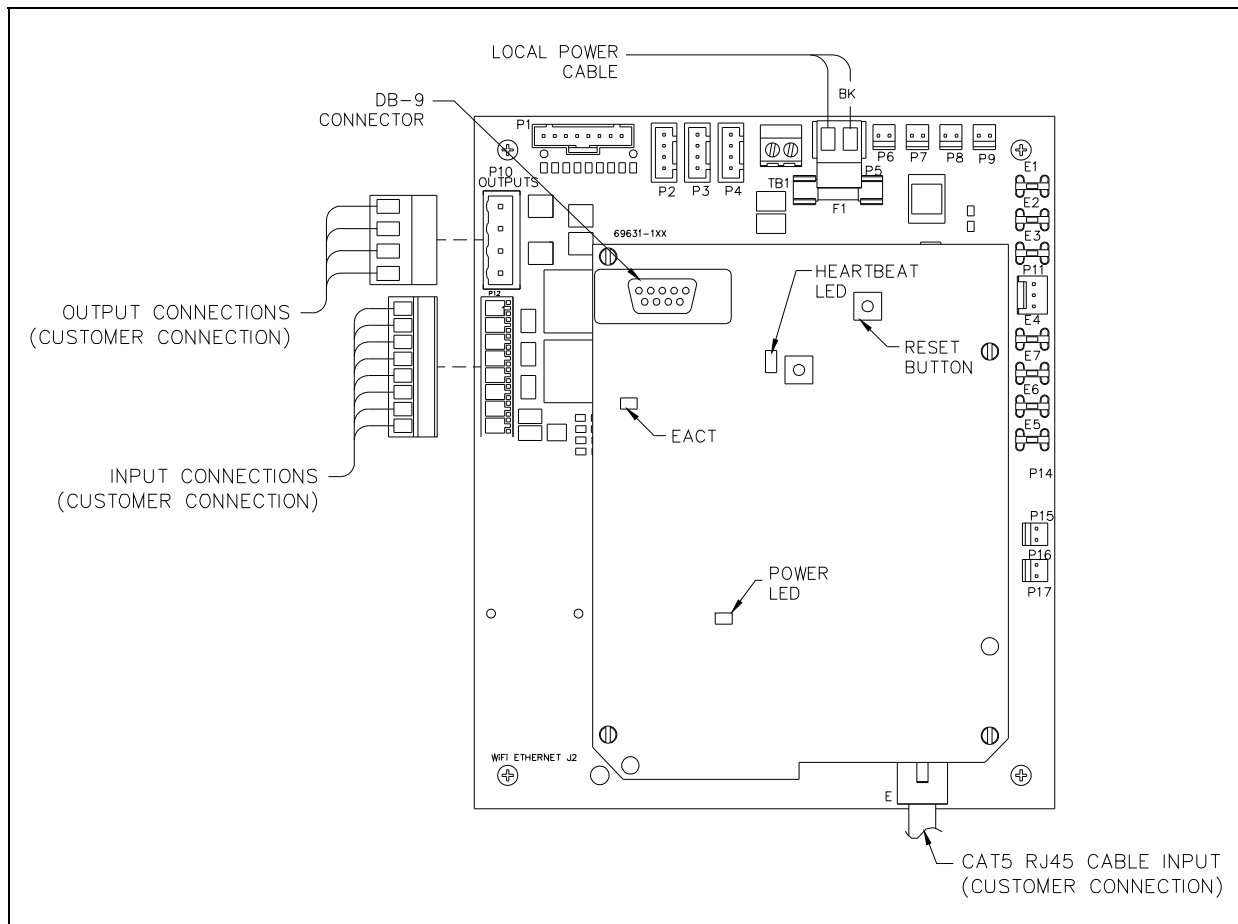

Figure 7. VoIP Telephone PCB Assembly
2. Plug the incoming Cat5 data line to the network Cat5 cable receptacle on the underside of the VoIP PCBA. See Figure 7.
Install any additional connections as indicated below. Refer to Figure 7, 8 and 9 for wiring details. Refer to Table 3 on page 11 for the recommended conductor sizes.